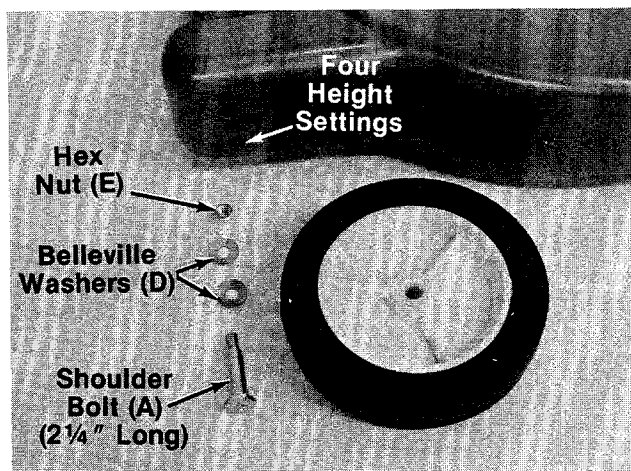

FIGURE 4.
6. Your mower has four height settings. Use the same mounting hole for all four wheels when assembling. See figure 4.
Adjustment may be made by removing and moving axle bolts to desired position. Cutting heights will be raised as axle bolts are moved to a lower hole and lowered as axle bolts are moved to a higher hole in the deck. All axle bolts must be mounted in the same relative position. Belleville washers must be assembled on the inside and outside of the deck so that the cupped side of the washers are against the deck. The spacers must be assembled between the rear wheels and the belleville washers. Refer to figures 4 and 5.